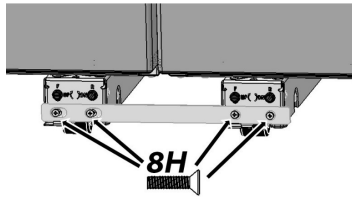

Fig. 14
15. Having the refrigerator/freezer standing side by side  $\frac{1}{2}$ " apart, fasten a 9H bracket to the front of the Levelers (Fig. 14), keeping the left-side 8H screws loose.
- c. Fasten the four 8H screws (Fig. 14 and 15) through 2 front and back 9H brackets. You may need several adjustments for the center trim to be consistently flush and centered to the units.